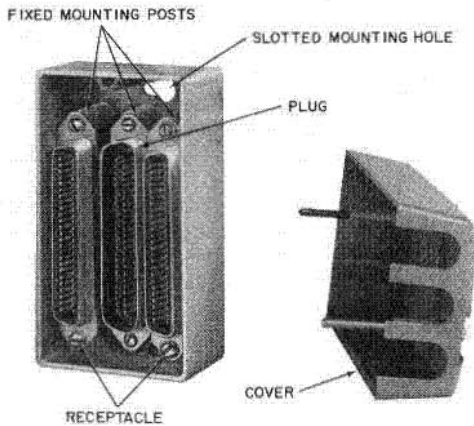
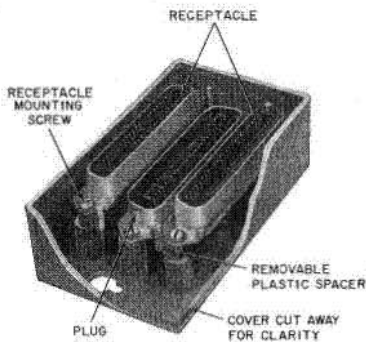
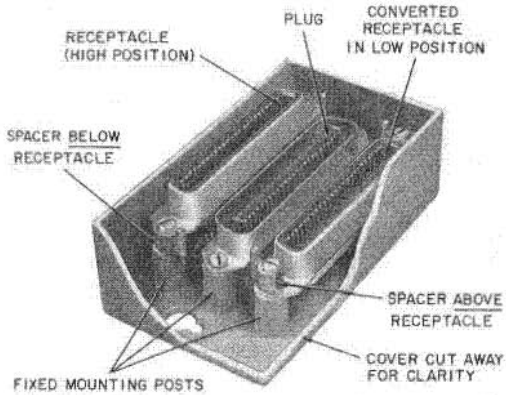

Fig. 16—KS-19252 Bridging Adapter, Nonconvertible
Fig. 17—KS-19252, List 1 Adapter Before Conversion (Early Model)
Fig. 19—KS-19252, List 1 Adapter After Conversion
sets (Fig. 17). It can be converted for use with an A25B and B25A connector cable plus a plug-ended set by pulling two inserts and storing. Normally, in early models, the receptacles were positioned high enough to handle low-hood KS-16689,L1 plugs furnished on cords of telephone sets (Fig. 16 and 17).
- (1) Loosen receptacle mounting screws sufficiently to permit slipout of the two C-shaped plastic spacers (Fig. 17 and 18) which support the receptacle in base.
- (2) Remove spacers. Receptacle can then be depressed to its lowest mounting position to receive the B25A connector cable plug.
- (3) Place removed spacers on top of the receptacle end tabs (Fig. 19) and tighten receptacle mounting screws.